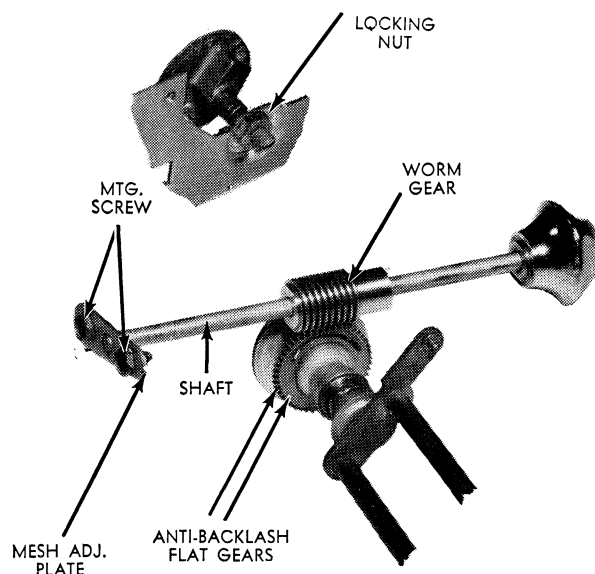

FIG. 6
The anti-backlash gear is a special gear used to take out any play in the mesh of the flat and worm gears. The anti-backlash arrangement of this tuner consists of two flat gears, side by side. One of these gears is fastened to the shaft on which it is mounted while the other is free to rotate around the shaft. These gears are spring loaded against each other so that their teeth will completely fill the space between the worm gear even though this space may vary. The anti-backlash gear is adjusted as follows: (See Fig. 6).
The worm gear mesh adjustment is made for the proper meshing of the worm gear and flat gears. The worm gear mesh adjustment is made as follows: (See Fig. 6).
2. Loosen locking nut and position the treadle arm ("treadle arm" sticks through coil housing to link onto core bar) midway between the coil housing and the frame arm by adjusting the treadle pivot screw (held by locking nut). (See (insert,) Fig. 6).